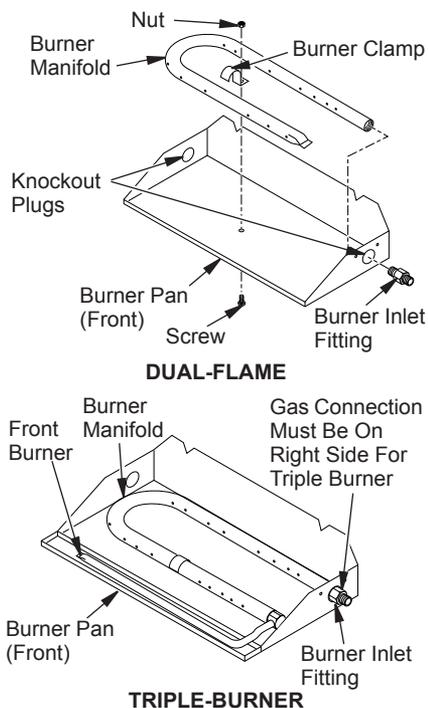

Figure 6 - Installing Burner
2. Using a hammer and screw driver, remove knockout plug from side of pan that corresponds to gas line (see Figure 6).
5. Using thread sealant (resistant to the action of propane/LP gas) on larger end of fitting, screw burner inlet fitting through hole and into burner manifold (see Figure 6). Tighten using a wrench.